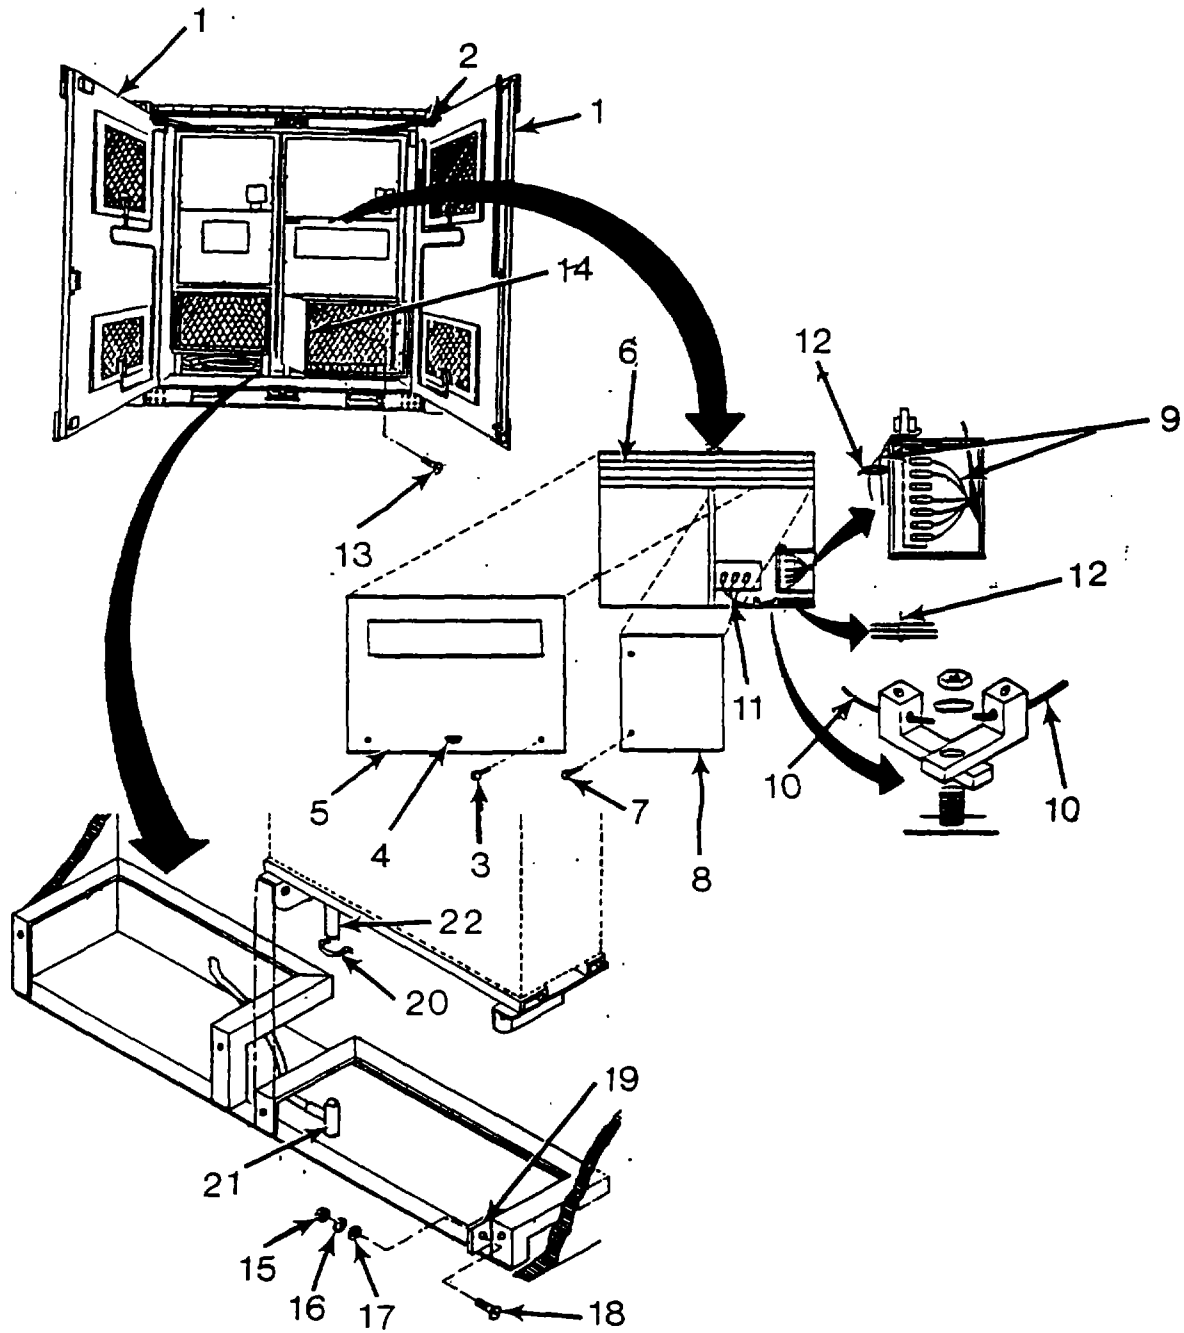
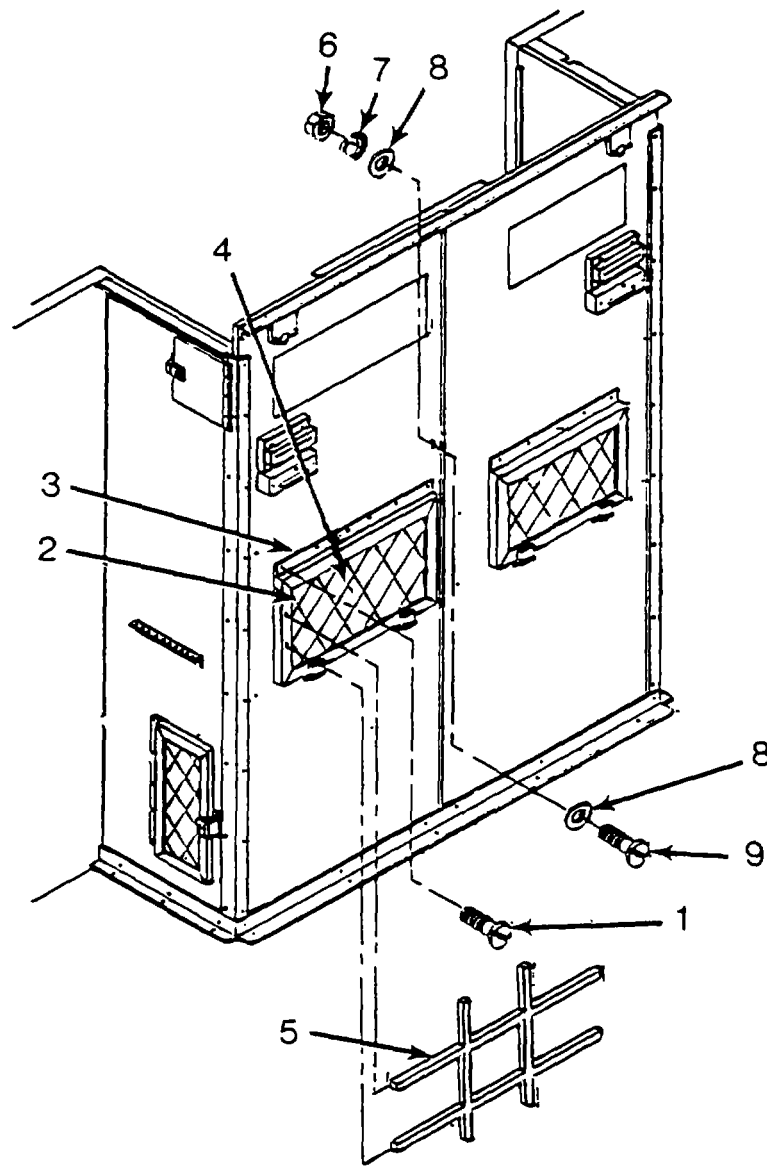

Figure 4-3. Air Conditioner Assembly (Outside)
Figure 4-4. Air Conditioner Assembly (Inside)
4-14. **AIR CONDITIONER ASSEMBLY.** (24,000 BTUH and 36,000 BTUH). Refer to figure 4-3 for location of components and hardware on the air conditioner assembly.
- (5) Remove filter (6).
- (6) Remove screws (7) and electrical cover (8).
- (7) Tag and disconnect thermostat wires (9).
- (8) Tag and disconnect grounding wires (10).
- (9) Tag and disconnect main power wires (11).
- (10) Remove tie straps (12).
- (11) Pull electrical cables out and away from air conditioner assembly.
- (12) Remove screws (13) and intermediate duct (14).
- (13) Remove nuts (15), lockwashers (16), flat washers (17), bolts (18), and angle brackets (19).
- (14) Remove tie straps (20) and disconnect tee connector (21) from drain hose (22).
- (15) Working inside shelter, remove screws (1, Figure 4-4), front vent door (2), and shim (3).
- (16) Remove filter (4).
- (17) Remove filter support (5).
- (18) Remove six nuts (6), lockwashers (7), flat washers (8) and bolts (9).
- (27) Move fork lift into position and raise air conditioner to upright position on fork lift tines. Tie a stiff wire to the electrical cables to feed them through the electrical passage.
- (28) Lift air conditioner and move to installation site at shelter cargo door entrance.
- (29) Carefully guide fork lift forward and lower air conditioner on to lower mounting bracket assembly.
- (30) Guide fork lift away from shelter.
- (31) Align holes in air conditioner mounting bracket (1) with holes in lower mounting bracket assembly (2) and secure with angle brackets (19, Figure 4-3), bolts (18), flat washers (17), lockwashers (16), and nuts (15).
- (32) Connect tee connector (21) to drain hose (22) and secure with tie strap (20).
- (33) Position intermediate duct (14) and secure with screws (13).
- (34) Reconnect the main power wires (11), grounding wires (10).
- (35) Cut and strip blue wire coming from transformer on replacement air conditioner. Reconnect thermostat wires (9). Remove tags and install tie straps (12).
- (36) Position electrical cover (8) and secure with screws (7).
- (37) Position access cover (5) and secure quick release (4).
- (39) Using an electric drill and the six holes in the air conditioning housing front panel as a template, drill six 1/4" holes through air conditioner housing.
- (40) Install six bolts (9, Figure 4-4), flat washers (8), lockwashers (7), and nuts (6).
- (41) Position shim (3) and front vent door (2) and secure with screws (1).
- (42) Install filter support (5).